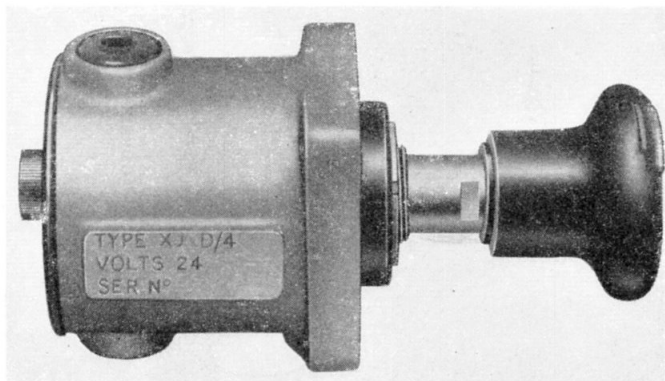

Fig. 1. Propeller feathering switch, Type XJD/4
1. The Type XJD/4 switch (*fig. 1*) normally controls the propeller feathering circuit. It is manually operated but incorporates a solenoid which holds the switch in the on position until the propeller is fully feathered, at which point the solenoid circuit is automatically switched off.
3. The switch (*fig. 1*) consists of a light metal body housing a plunger, which, when depressed, makes contact with leaf spring contacts attached to the terminal studs. Two circuits are completed in succession through these contacts; first, the circuit operating the feathering of the propeller, and secondly, the solenoid circuit which holds the plunger in the depressed position until